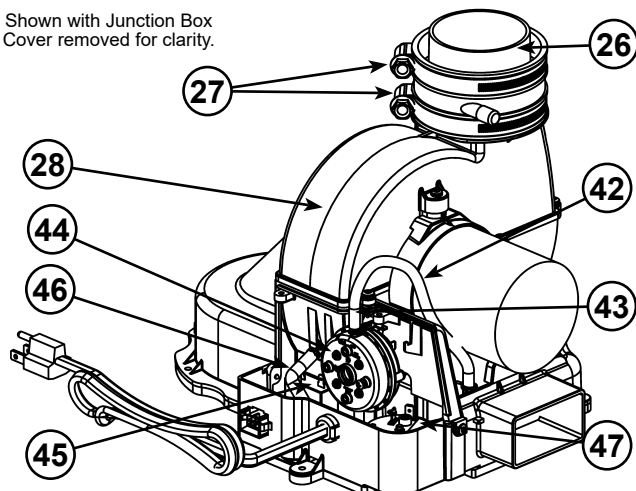

Figure 60.
- 26 ****Rubber Coupling (see Figure 5) (see also Figure 60)
- 27 Gear Clamp (see Figure 5) (see also Figure 60)
- 28 ***Blower with Power Cord (see Figure 5) (see also Figure 60)
- 42 Air Tubing (Intake) (see Figure 5) (see also Figure 60)
- 43 Blower High Limit Switch (see Figure 5) (see also Figure 60)
- 44 Intake Air Pressure Switch (NC) (inside box) (see Figure 5) (see also Figure 60)
- 45 Capacitor (see Figure 5) (see also Figure 60)
- 46 Air Tubing (Exhaust) (see Figure 5) (see also Figure 60)
- 47 Exhaust Air Pressure Switch (NO) (inside box) (see Figure 5) (see also Figure 60)